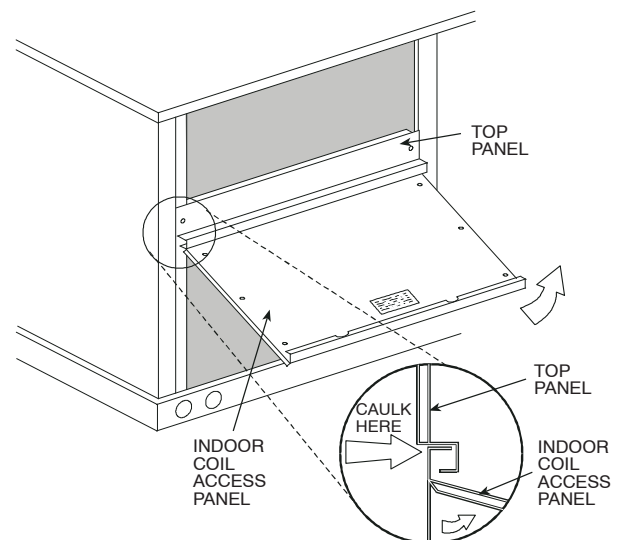

Fig. 11 - Indoor Coil Access Panel Relocation
1. The indoor coil access panel will be used as the top of the hood. Remove the screws along the sides and bottom of the indoor coil access panel. See Fig. 11.